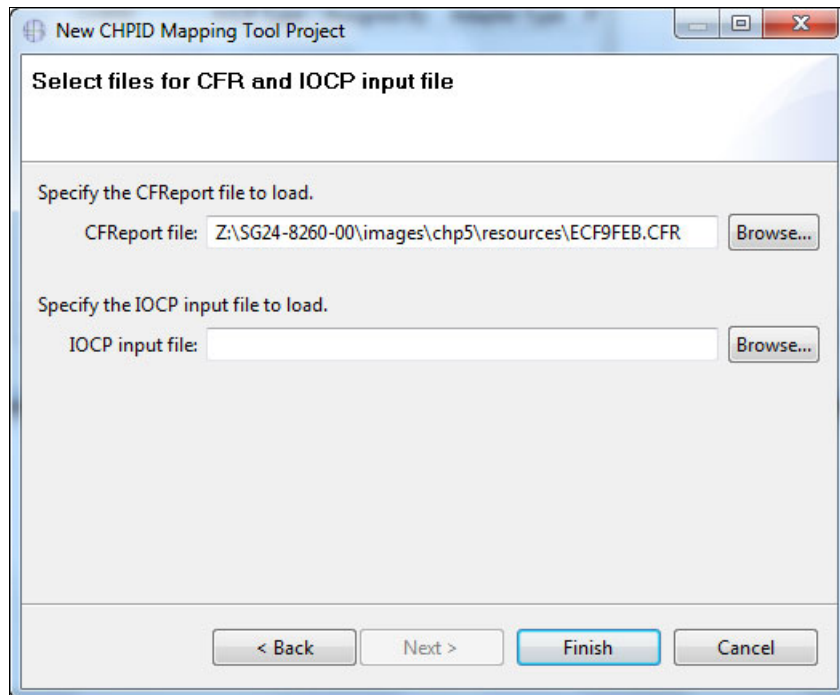

Figure 7-17 CMT - Specifying the CFRReport file
4. Import the CFRReport file into the CHPID Mapping Tool by specifying the name in the CFRReport file field, and then click **Finish** (Figure 7-17).